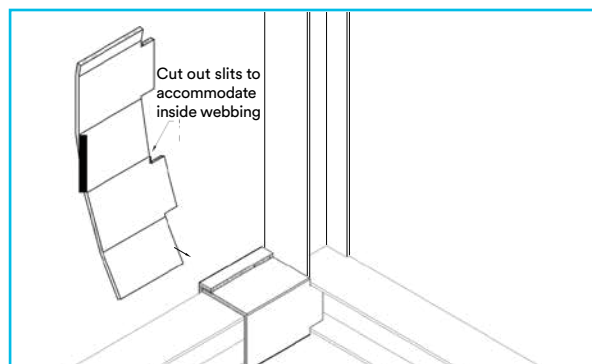

Figure 1
- 1 Begin applying E-Mat to the horizontal beam that terminates at the column flange (*Figure 1*). Make cut outs and slits from the E-Mat and wrap in and around the perimeter of the beam. Ensure the extended tabs of E-Mat are tightly abutted to the adjacent horizontal beam's web. Secure E-Mat in place with 3M™ 898 Filament Tape. Filament tape is for temporary hold only and therefore the amount of tape and spacing to be used is at the installer's discretion.